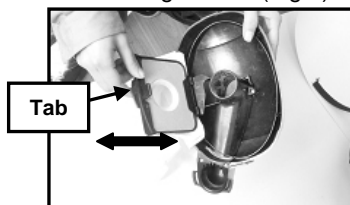

Fig. 2
3. Pull the tab on the **HEPA** dust bag holder out slightly and flip upwards. (Fig 2)
4. Holding the **HEPA** dust bag in your hand, slide it firmly between the slots in the bag holder. (Fig 2)